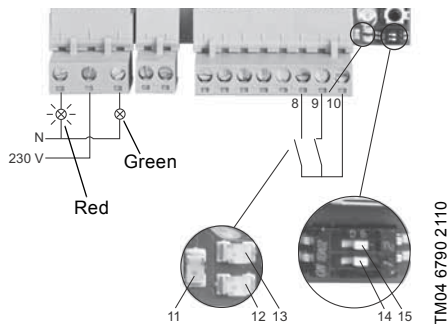

Fig. 10 Detection of overflow
See fig. 10.
7.1.1 System alarms and warnings and fig. 10.